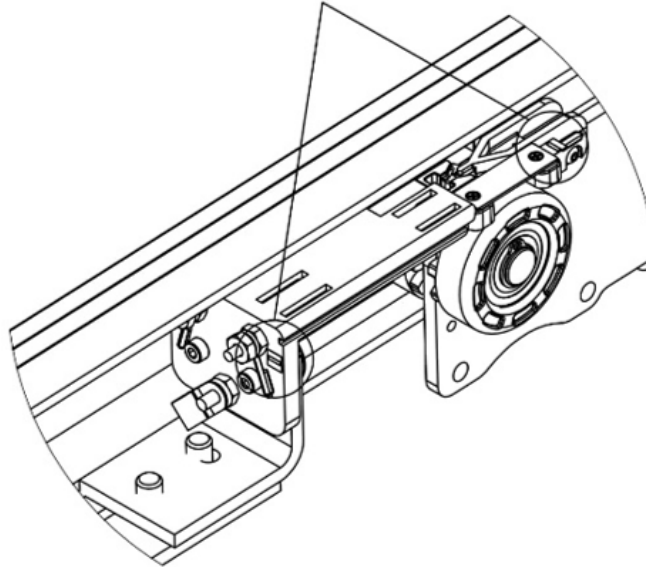

Figure 52: ***Make Sure Polarity Aligns by Matching the Positive/Negative Stickers***
- Make sure the charging contacts on the gantry face the power supply, and that the positive/negative stickers on the endstop charger and gantry charging contacts align (Figure 52).